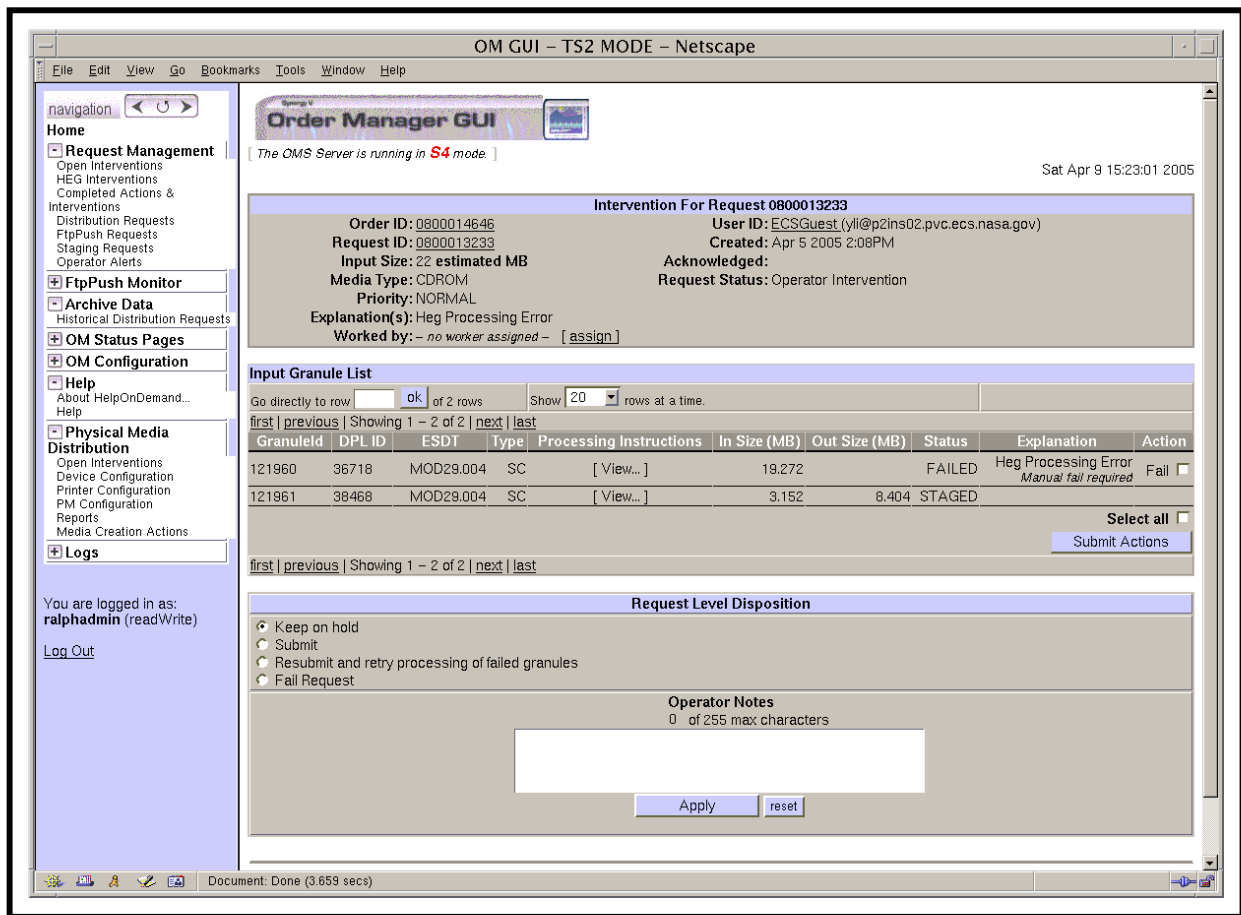

Figure 45. Open HEG Intervention Detail (Intervention for Request X) Page
- For example, clicking on Request ID **0800013233** brings up an **Open HEG Intervention Detail** page (i.e., **Intervention for Request 0800013233**) (Figure 45).
- 5 Observe information displayed on the **Open HEG Intervention Detail** page (Figure 45).
- The following items are displayed on the **Open HEG Intervention Detail** page (Figure 45).
- The **Open HEG Intervention Detail** page (Figure 45) is dismissed.
The **Open HEG Intervention Detail** page (Figure 45) provides the full-capability operator with a means of performing the following kinds of interventions:
- The **Open HEG Intervention Detail** page (Figure 45) is being displayed on the **OM GUI**.
- If the **Open HEG Intervention Detail** page (Figure 45) is not being displayed on the **OM GUI**, go to the procedure for **Viewing Open HEG Intervention Information on the OM GUI** (preceding section of this lesson).
- 1 Observe the information displayed in the **Worked by** column of the **Open HEG Intervention Detail** page (Figure 45).
- **OK** - to dismiss the warning dialogue box and the **Close Confirmation** page and return to the **Open HEG Intervention Detail** page (Figure 45).